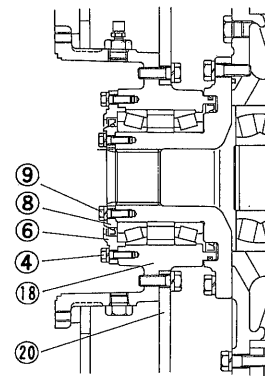

Fig. 76
- 1) SV91T, SV91D & SV91DP . . . . . Remove bolts (4), and remove cover (6), and shim. After removal of bolts (9) and cover (8), separate axle housing (18) together with disc (20). (Fig. 76)